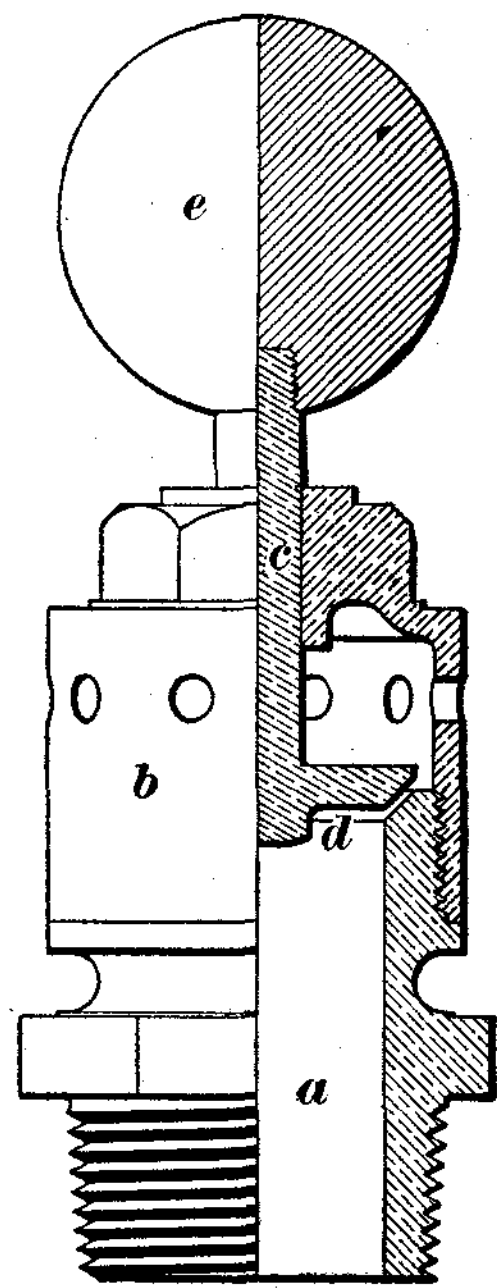

FIG. 1
6. The dead-weight safety valve, in modern practice, is used only for low-pressure boilers. It has the advantage of simplicity and compactness. The construction of a modern dead-weight safety valve is shown in Fig. 1. It consists of a shell *a* screwed in the top of the boiler, the upper part forming the valve seat. The cap *b*, which is perforated to allow the steam to escape, forms the guide for the valve stem *c*. The valve disk *d* closes the opening. The dead-weight resisting the steam pressure consists of the ball *e* and the weight of the valve and stem, and this dead-weight is